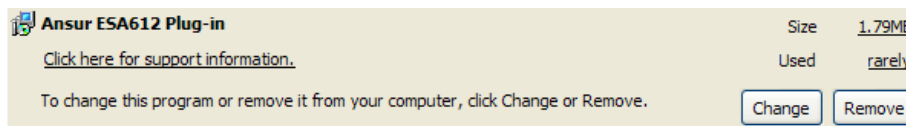

Figure 2-3. Removing ESA612 Plug-In
3. With the entry highlighted, click the **Remove** button as shown in Figure 2-3.